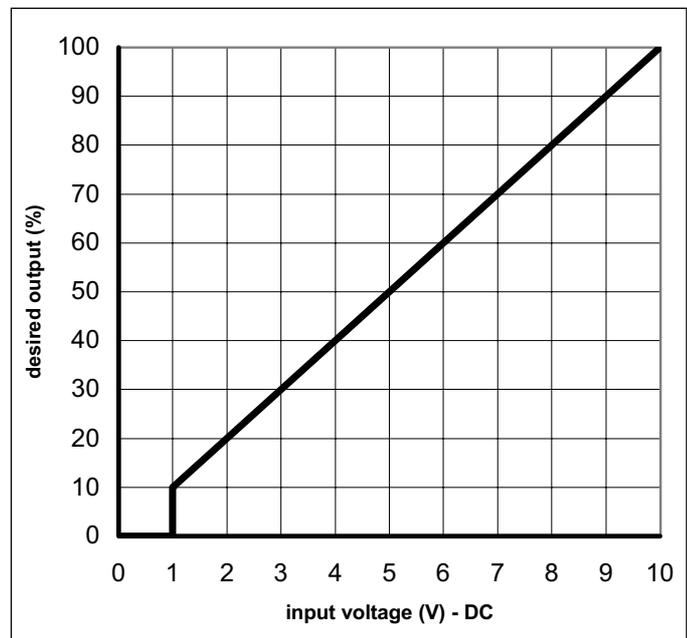

Fig. 19 Output control via analog (0-10 Volt) signal
- Output based - fixed parameters (10 to 100%), see *Fig. 19*.